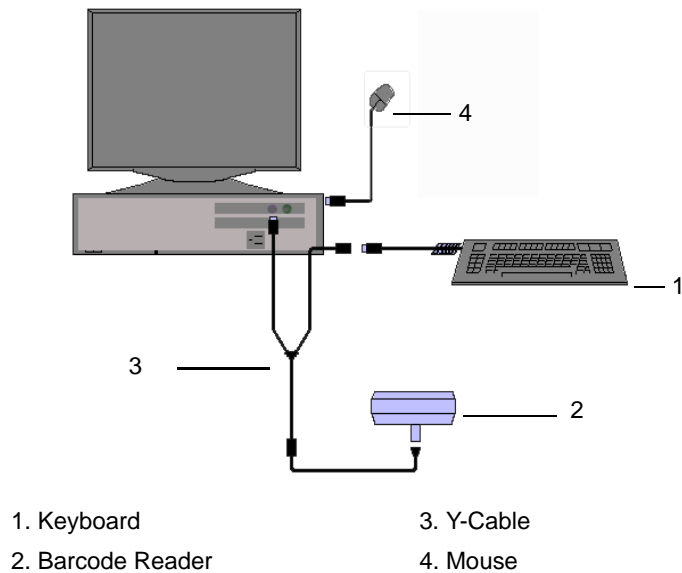

Figure B-5 Connecting the PC, Mouse, Barcode Reader, and Keyboard
11. Connect the Y-cable to the barcode reader and keyboard, then connect the Y-cable to the PC. See Figure B-5.